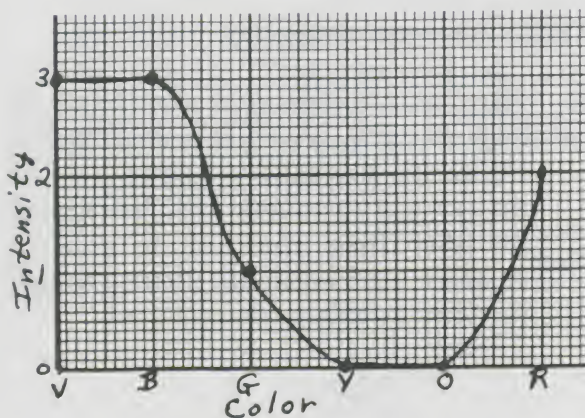

Figure 11. A sample transmission spectrum. The colors are violet, blue, green, yellow, orange, and red.
3. *Record your results on a graph like Figure 11.*
6. *Explore the transmission spectra of some of the other filters.* See if you can find the filter which produces the spectrum given in Figure 11. Also try combinations of filters.